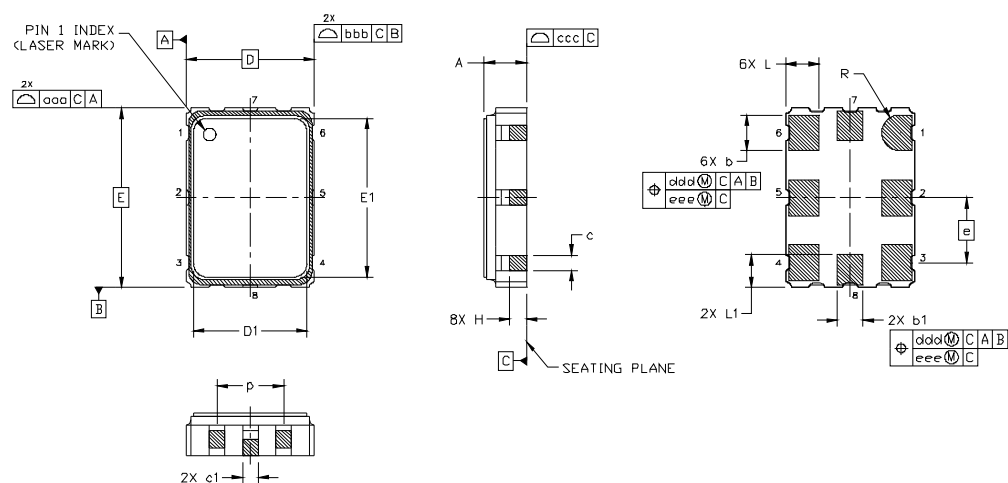

Figure 2. Si597 Outline Diagram
Figure 2 illustrates the package details for the Si598/Si599. Table 12 lists the values for the dimensions shown in the illustration.
- Updated Figure 2 on page 8.